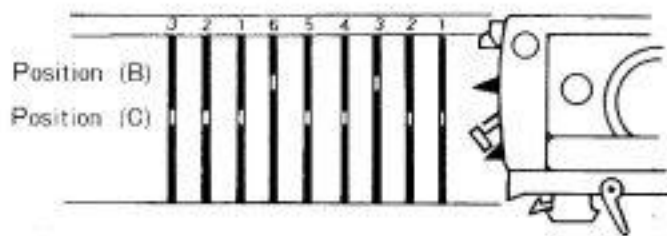
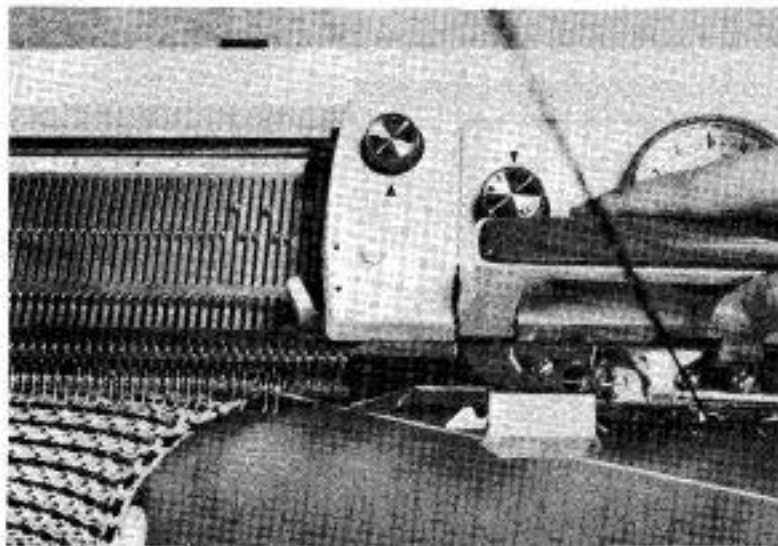

Fig. 122
Fig. 123
- * 1st row With Carriage on right. Push back into Position (B) the 3rd and 6th needles from the right end opposite Nos. 3 and 6. (Fig. 122) Knit 1 row with main colour. (Fig. 123)
- 2nd row With carriage on left. Push back into Position (B) 1st and 4th needles opposite Nos. 6 and 3. Knit 1 row.
- 3rd row With carriage on right. Replace main colour with contrast colour by switching feeders. Push back into Position (B) 2nd and 5th needles from the right end opposite Nos. 2 and 5, and knit with contrast colour.
- 4th row With carriage on left. push back into Position (B) 2nd and 5th needles from the left opposite Nos. 2 and 5. Knit 1 row with contrast colour.
- 5th row With carriage on right, push back into Position (B) the 1st and 4th needles opposite Nos. 1 and 4. Knit 1 row with contrast colour.
- 6th row With carriage on left, push back into Position (B) the 3rd and 6th needles from the left end opposite Nos. 3 and 6. Knit 1 row with contrast colour.* For Pattern repeat from * to *.